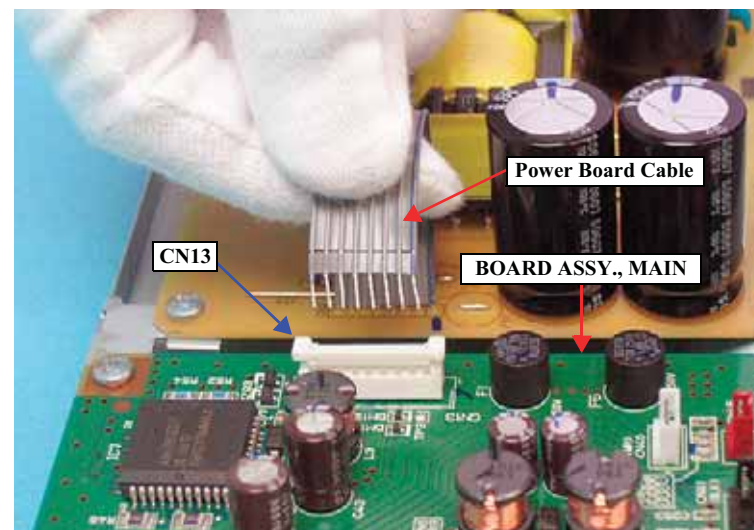

Figure 4-33. Disconnecting the Power Board Cable from CN13
2. Disconnect the Power Board Cable from CN13 on the BOARD ASSY., MAIN. Note that the connector is locking the cable. Be sure to unlock it to disconnect the cable. *See Figure 4-33.*